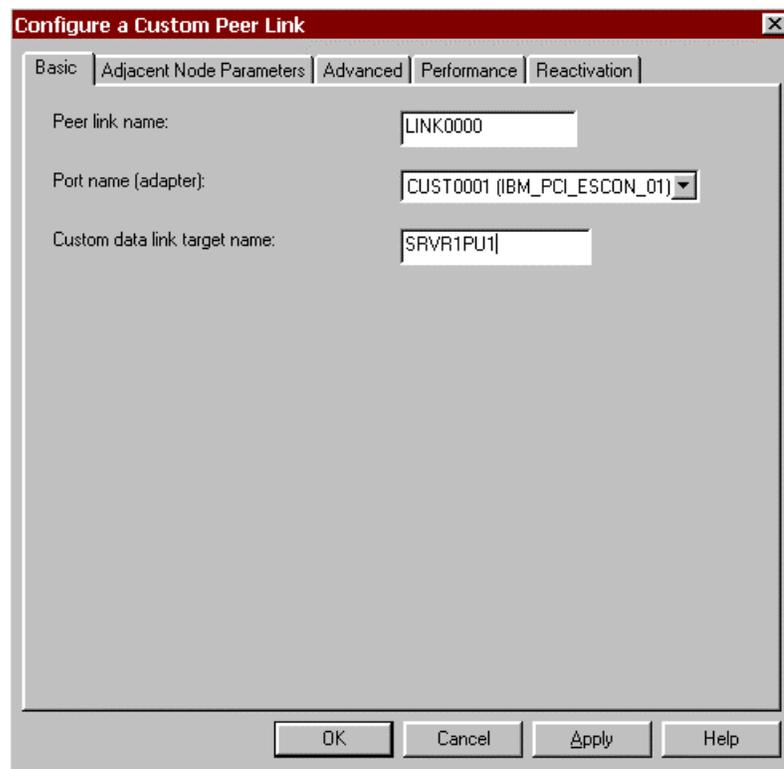

Figure 10-26. Configure a Custom Peer Link - Basic
2. The **Basic** tab of the *Configure a Custom Peer Link* screen (Figure 10-26) will display. Note that the **Reactivation** is new beginning in version 4 of the configuration utility.